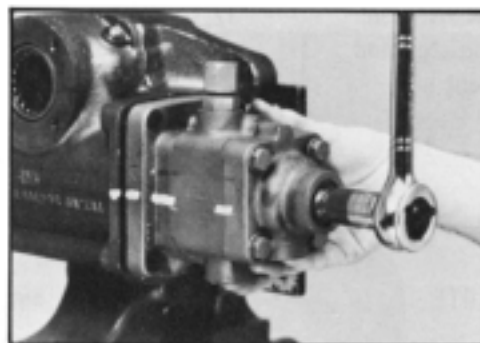

Figure 60
17. Rotate worm shaft (23) until adaptor (18) moves away from housing (55), about 3/4 inch (19 mm) and let drain. SEE FIGURE 60.